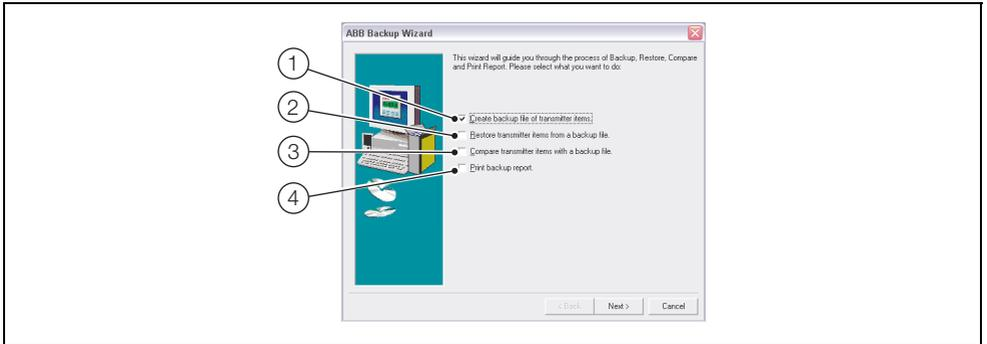

Fig. 6.4 ABB Backup Wizard
ABB Backup Wizard – Fig. 6.4
1. Referring to Fig. 6.4, select option ① and click  to continue. The 'ABB Backup Wizard (Backup)' screen is displayed:
1. Referring to Fig. 6.4, select option (2) and click  to continue. The 'ABB Backup Wizard (Restore)' screen is displayed:
1. Referring to Fig. 6.4, select option (3) and click  to continue. The 'ABB Backup Wizard (Compare)' screen is displayed:
1. Referring to Fig. 6.4, select option (4) and click  to continue. The 'ABB Backup Wizard (Print Report)' screen is displayed: